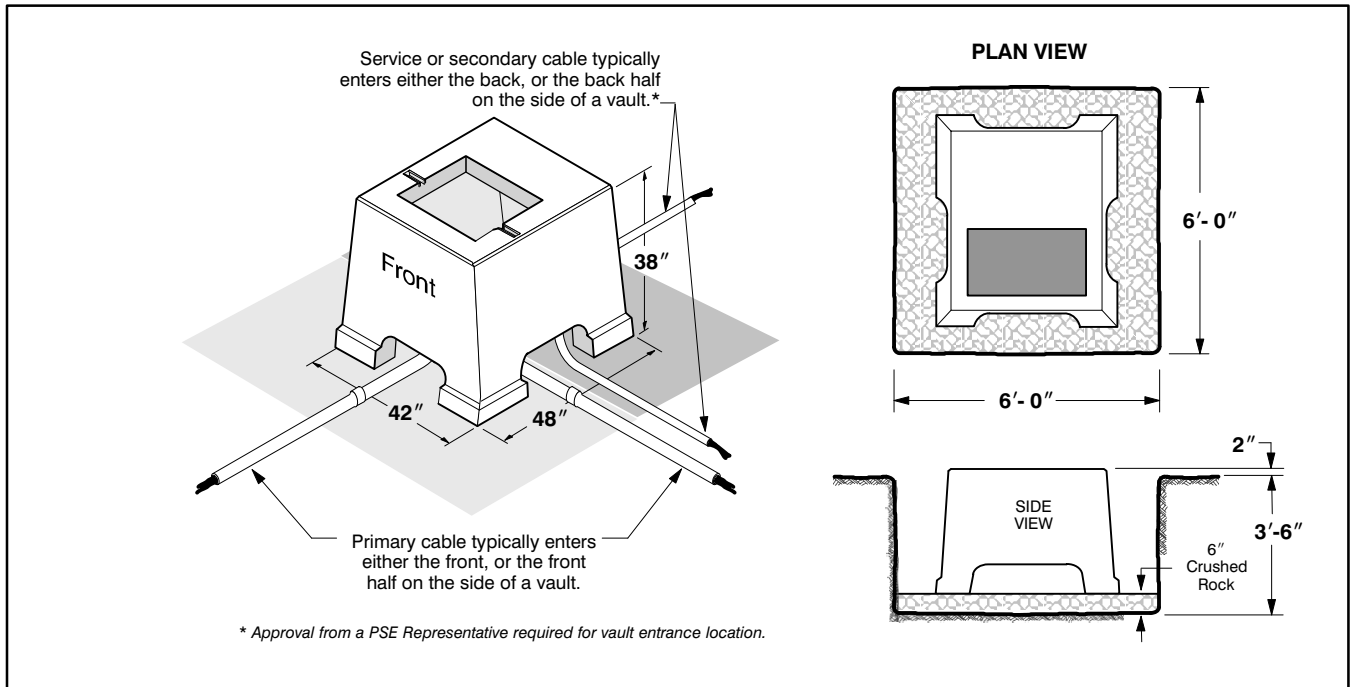

Figure 22 Padmount transformer vault excavation
4. Dig a hole large enough to accommodate the transformer or junction box vault and allow for easy installation and compaction (see *Figures 22 through 24*).